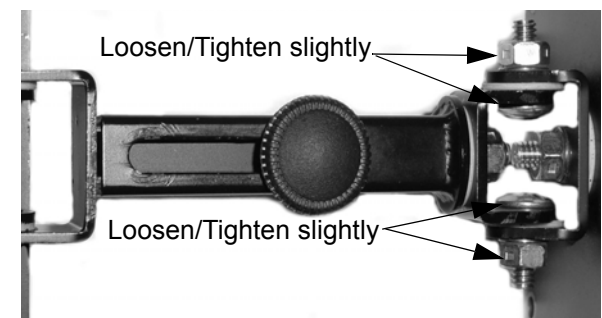

Figure 6. Tilt Adjustment Nuts
1. Using a 7/16" wrench, slightly tighten or loosen tilt adjustment nut and bolt (see Figure 6).